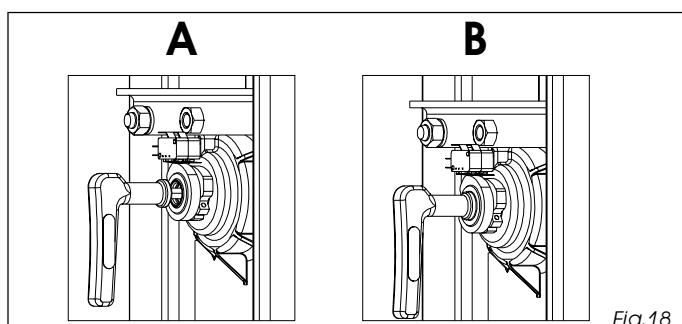

Fig.18
- fit the special key, located inside the upright, in the release hole (fig.18, ref.A) and turn it clockwise for a few turns until you reach the mechanical stop limit.
**Attention: There is a round edge on the release key, which must rest on the shaft (fig. 18 ref.B). When this position is**